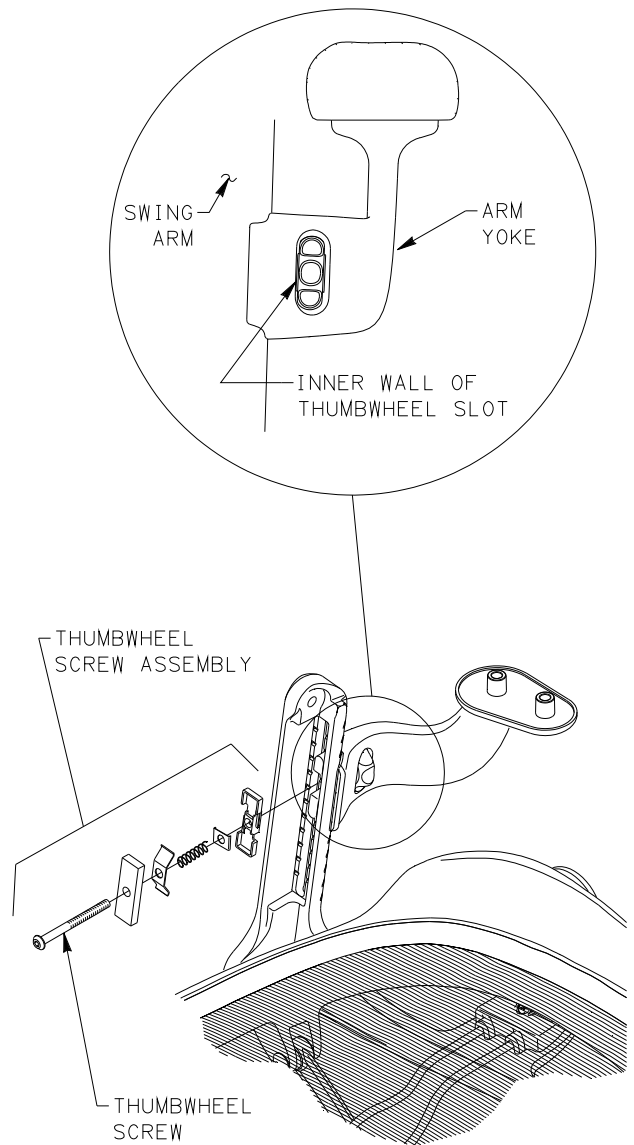

FIGURE 7
-FOR ADJUSTABLE ARM, WHILE SUPPORTING ARM YOKE AND HOLDING THUMBWHEEL, USE T-27 TORX BIT AND RATCHET WRENCH TO REMOVE ARM YOKE. SET ASIDE THUMBWHEEL SCREW ASSEMBLY. REMOVE ARM YOKE AND DISPOSE OF PROPERLY. NOTE: OLDER CHAIRS HAVE SPRING AND SPRING RETAINER. REMOVE AND DISPOSE OF PROPERLY. SEE FIGURE 7.
-FOR VERTICALLY ADJUSTABLE AND FULLY ADJUSTABLE ARMS, INSTALL JAMB NUT INTO REPLACEMENT ARM YOKE. INSTALL WASHER AND BEARING INTO THUMBWHEEL. INSTALL THUMBWHEEL INTO THUMBWHEEL SLOT AND HOLD THUMBWHEEL ASSEMBLY IN PLACE. INSTALL OUTER SLIDE BEARING TO ARM YOKE AND POSITION ARM YOKE TO SWING ARM. WHILE HOLDING THUMBWHEEL AGAINST INNER WALL OF THUMBWHEEL SLOT, INSTALL THUMBWHEEL SCREW ASSEMBLY TO ARM YOKE. TIGHTEN TORX HEAD SCREW UNTIL ARM YOKE HOLDS POSITIONED HEIGHT. DO NOT OVERTIGHTEN. SEE FIGURES 7 AND 8.